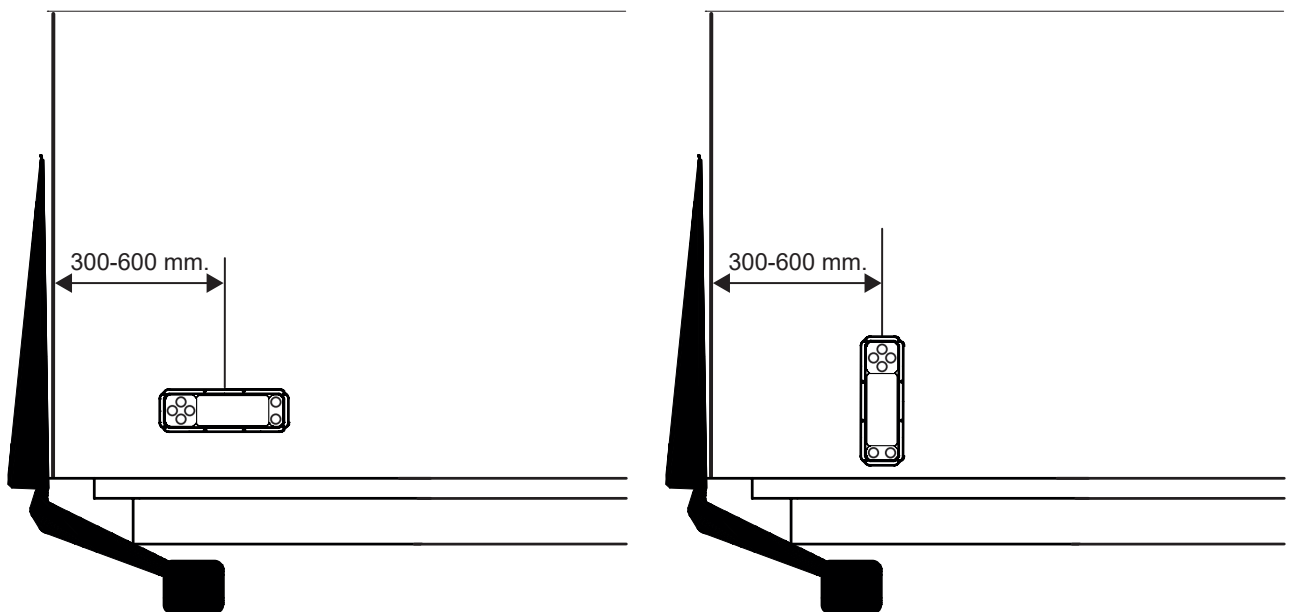

Figure 51. Installing controllers
5. Then install the controller securely on the body. See Figure 51